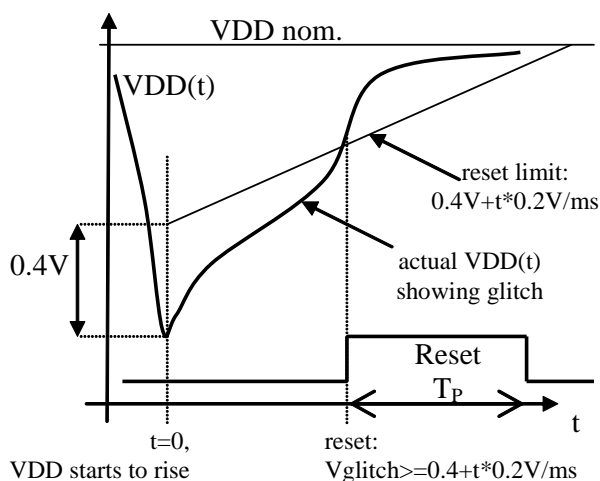

Figure 10. POR Glitch Parameters
- On the rising edge of a VDD glitch when the supply voltage exceeds the time functioned limit of Figure 10.